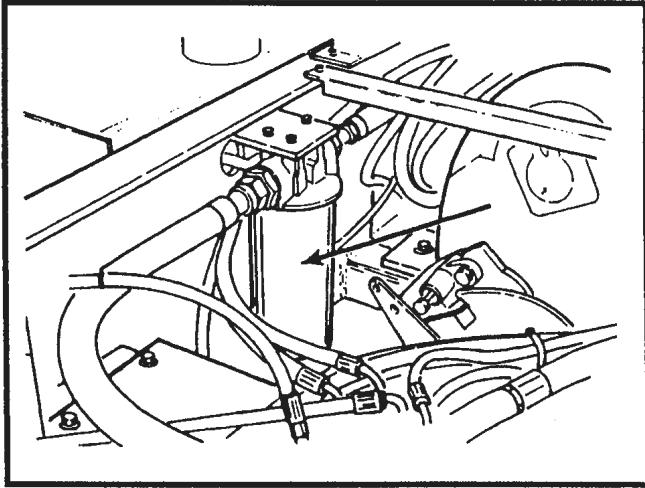

Figure 12-6. Hydraulic Oil Filter
1. Remove and discard the hydraulic system oil filter. Refer to Figure 12-6.